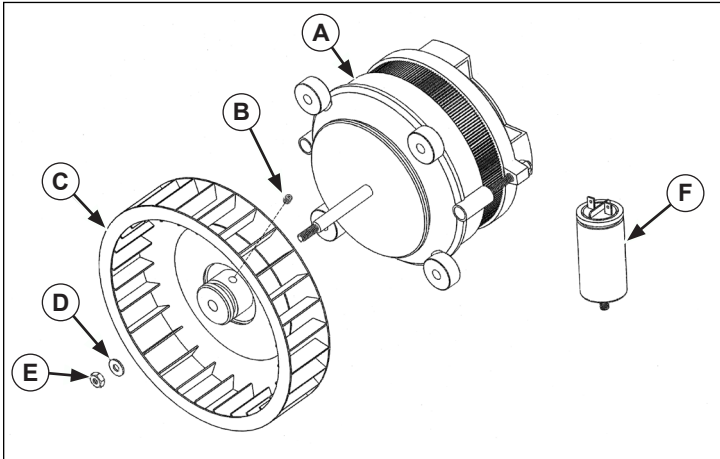

Figure 5. Fan, Motor, Hardware and Capacitor
10. Remove the fan nut (E) and fan washer (D). See Figure 5.
15. Remove the nuts (B) and washers (C) securing the fan. Remove and discard the old fan (A), retain the hardware.
16. Install the new fan (A) in the same position as the old fan. Secure the new fan (A) with the nuts (B) and washers (C) removed in the previous step.
17. Connect the new fan (A) wire harness to the correct locations noted previously.
19. Note the colors and locations of the wires connected to the capacitor (E).
20. Remove the wires connected from the capacitor (E).
21. Remove and discard the capacitor (E). Retain hardware to secure the new capacitor.
22. Install the new capacitor (E).
25. Install the new fan (C) securing with the set screw (B), fan washer (D) and nut (E). See Figure 5.